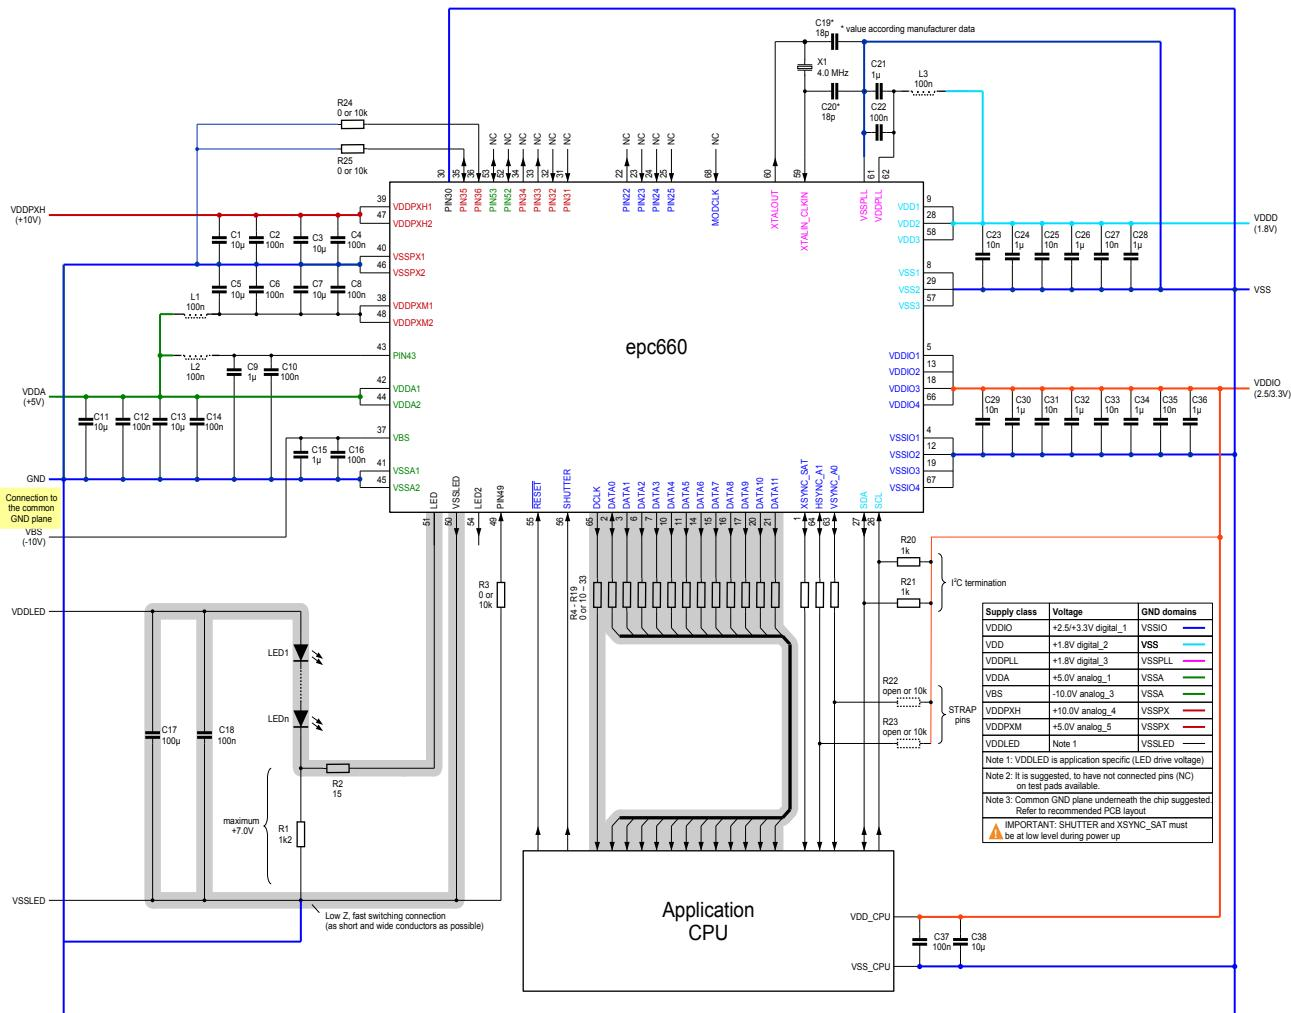
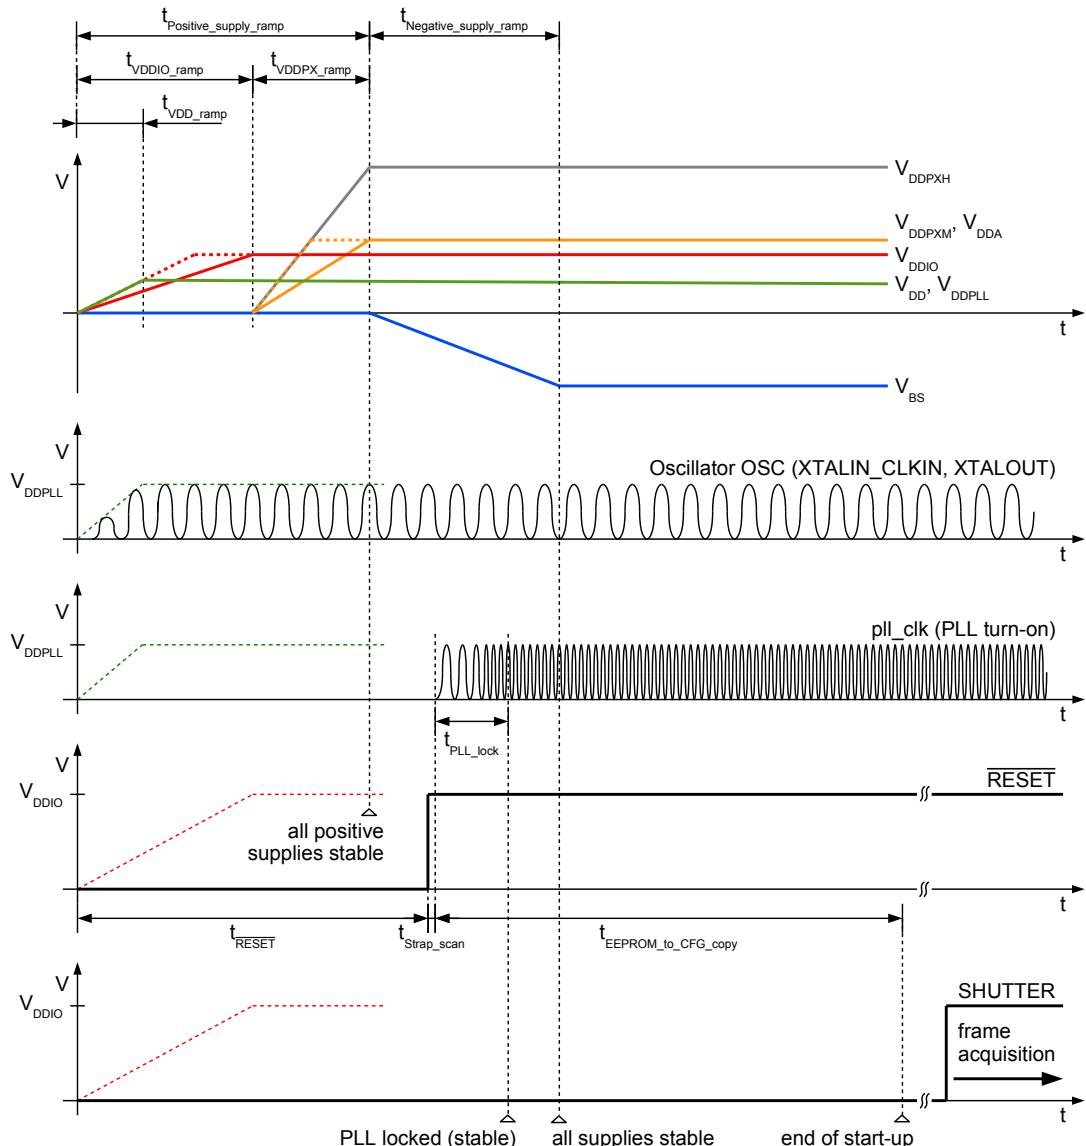

Figure 17: Typical application diagram
Figure 21: Power-up and reset sequence
Table 11: Values of component related to epc660 chip, see Figure 17
1. epc660 is supplied with +1.8V, +2.5/3.3V, +5V, +10V and -10V. See Figure 17.
3. +1.8V is used for supplying the digital logic (VDD), the on-chip oscillator OSC and the phase-lock-loop PLL (VDDPLL). These supplies are marked in the application diagram as VDD and VDDPLL respectively (Figure 17). Their supply wiring must be separated from the digital wires and physically isolated from each other. The XTAL/OSC and PLL are critical parts of the chip which directly impacts the optical system performance (i.e. distance calculation). Thereof, the VDDPLL supply needs a well decoupling from VDD, because the digital logic creates some internal switching noise on VDD.
5. +5V is used for supplying analog blocks of the chip e.g. pixel-field drivers and ADC readout circuitry. Refer to Figure 17.
16. Pins not listed here have to be connected according Figure 17.
During the power-up sequence, VDD and VDDPLL supplies (Figure 21) must be applied at the same time to the epc660. VDDIO can be applied either at the same time or after VDD and VDDPLL supplies become stable. In a system where VDDIO voltage is connected in parallel to application CPU IO supply pins (see Figure 17), VDD and VDDPLL can be generated by a linear regulator directly from VDDIO supply. In this case, all these three supplies ramp together.
The epc660 starts using either the internal 4MHz oscillator OSC with a crystal/resonator (Figure 17) or an external 4MHz clock, followed by an EEPROM copy sequence in parallel to the PLL turn-on phase. This is the factory default configuration. Several configuration registers are modified by copying the EEPROM content (Figure 58, i.e. overwrite reset values).
The epc660 has output pins with dual/alternative functionality for PCB level flexible start-up configuration changing, called 'strap pins'. RESET release is followed by a strap pin scanning step. The chip programs its strap pins as inputs with internal pull-down resistors enabled for 4 osc_clk periods (refer to Table 1 and Table 3.). If there is no external pull-up resistor connected, the corresponding strap pin will be scanned as logic 0 due to the internal pull-down resistor. If there is an external pull-up resistor connected (Figure 17), it will override the internal pull-down and corresponding pin will be scanned as logic 1. After the strap scan period, pins are programmed back as outputs so that they can be used for their main function. Strap pins and their definitions are listed below (Table 12).